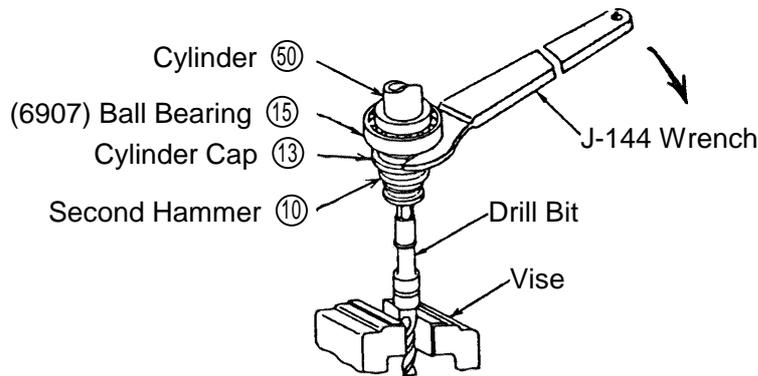

Fig. 7
Loosen the cylinder cap (13) by using the wrench (J-144) into the width between flat surfaces. (See Fig. 7)